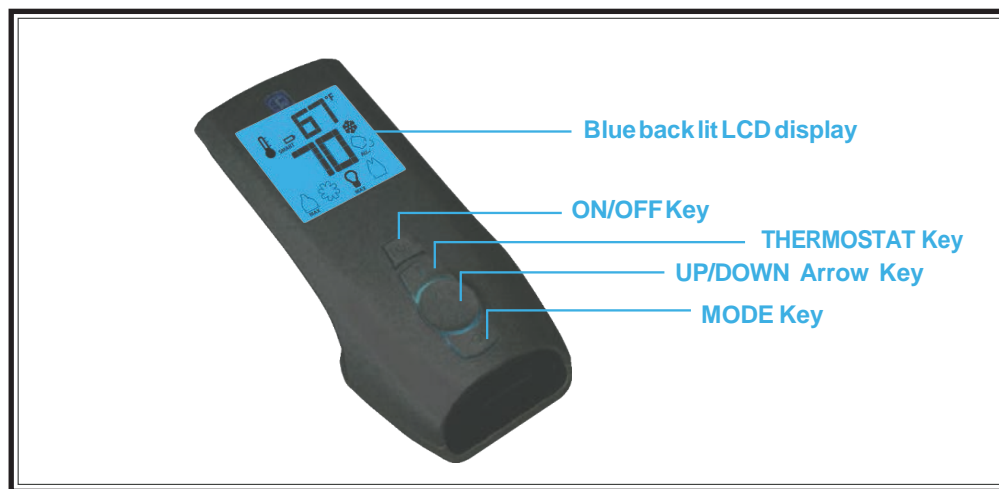
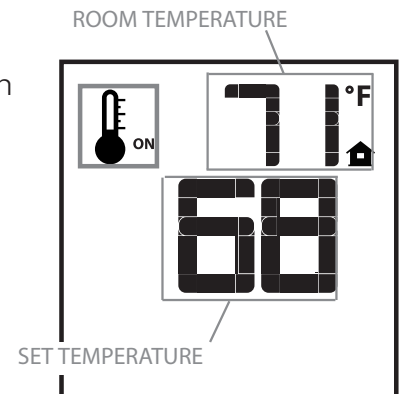
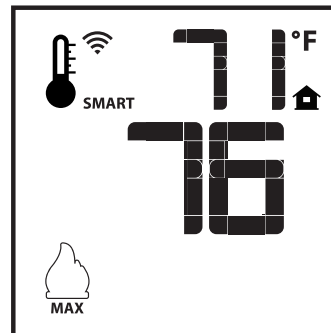

Fig. 1: Proflame Remote Transmitter
Fig.10
Fig. 11: Smart flame function
The Proflame Remote Transmitter uses a streamline design with a simple button layout and informative LCD display (Fig. 1). The remote transmitter is powered by 3 AAA type batteries. A mode key is provided to index between the features and a thermostat key is used to turn on/off or index through thermostat functions (Fig. 1 & 2).
To activate this function, press the thermostat key (Fig. 1). The LCD display on the remote transmitter will change to show that the room thermostat is “ON” and the set temperature is now displayed (Fig. 10). To adjust the set point, press the up or down arrow keys until the desired set point temperature is displayed on the LCD screen of the remote transmitter.
The Smart Thermostat function adjusts the flame height in accordance to the difference between the set point and the room temperatures. As the room temperature gets closer to the set point, the Smart Function will modulate the flame down. If the room temperature is cool, the Smart Function will modulate the flame up. To activate this function, press the THERMOSTAT key (Fig. 1) until the word “SMART” appears to the right of the temperature icon (Fig.11). To adjust the set point, press the up or down arrow keys until the desired set point temperature is displayed on the LCD screen of the remote transmitter (Fig. 11).
If the gas stove is equipped with a hot air circulating fan, the speed of the fan can be controlled by the Proflame System. The fan speed can be adjusted through six (6) speeds. To activate this function use the Mode Key (Fig. 1) to index to the fan control icon (Fig. 13). Use the Up/Down Arrow Keys (Fig. 1) to turn on, off or adjust the fan speed (Fig. 14). A single “beep” will confirm reception of the command.
With the system in the “OFF” position, press the Mode Key (Fig. 1) to index to the CPI mode icon (Fig. 15). Pressing the Up Arrow Key will activate the Continuous Pilot Ignition mode (CPI). Pressing the Down Arrow Key will return to IPI (Fig. 16). A single “beep” will confirm the reception of the command.
The light bulb function controls the exterior accent lighting. To activate this function use the Mode Key (fig. 1) to index to the light bulb icon (fig. 17). The intensity of the output can be adjusted through six (6) levels. Use the Up/Down Arrow Keys (Fig. 1) to adjust the output level (fig. 18). A single “beep” will confirm reception of the command.